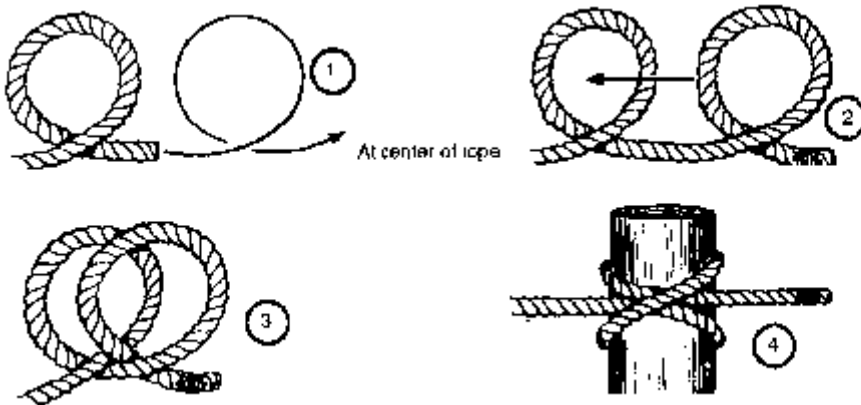

Fig. 14
- To make a Clove Hitch in the center of the rope - see figure 14.